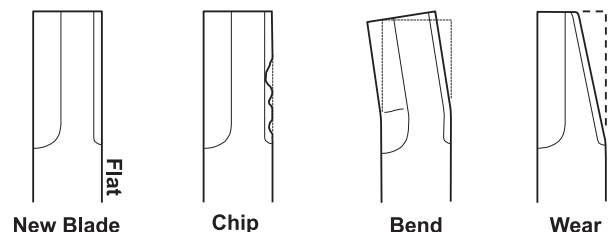
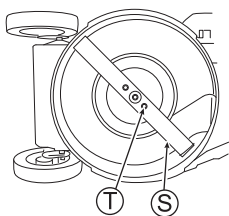

Fig. 39
Fig. 40
1. Confirm that there is no chip, bend, or wear with the blade (S). (See Fig. 39)
2. If the blade (S) or its the blade mounting bolts (T) are "worn", "broken" or "deformed", exchange with new one(s) specified by us.
3. Confirm that the blade mounting bolts (T) are tightened by the specified torque. (See Fig. 40)
2. Fully tighten the blade mounting bolts (T) with hand.
4. Confirm that the blade mounting bolts (T) are tightened by the specified torque. (See Fig. 40)